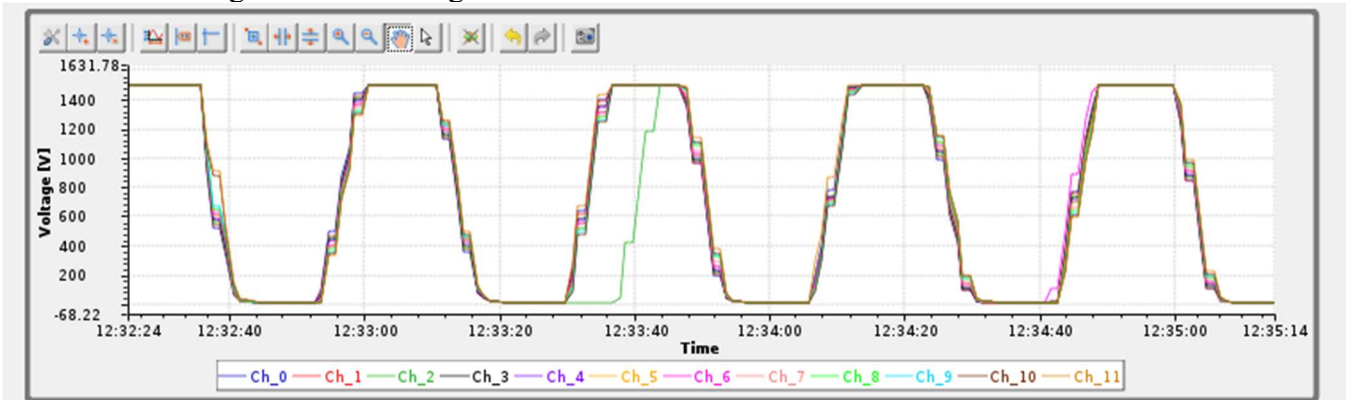

Fig.16 – HV CAEN – Voltage Ramp Test CSS BOY screen shows latency incident for channel 2.
- Channel 2 had same misbehavior as mentioned in previous test; channel 2 presented one latency incident during this trial. See fig.16